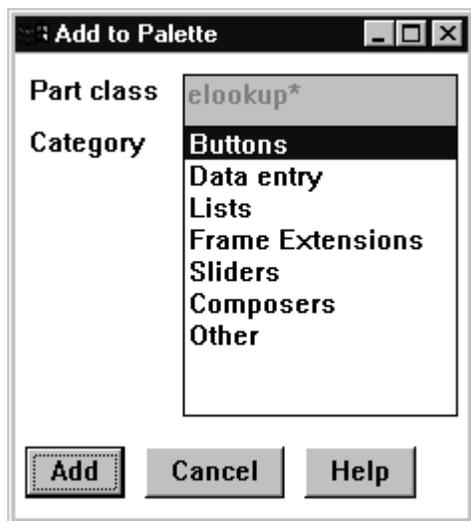

Figure 52. The Add to Palette window
2. Select **File**→**Add to palette**. Visual Builder displays the Add to Palette window, as shown in Figure 52.